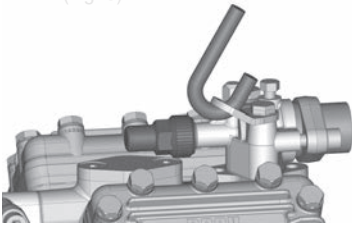
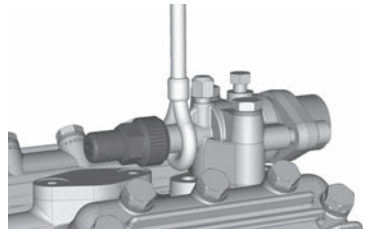

Fig. 8
Fig. 9
- Transport and suspension unit on the eyebolt (Fig. 8) or direct on the discharge line valve (Fig. 9).